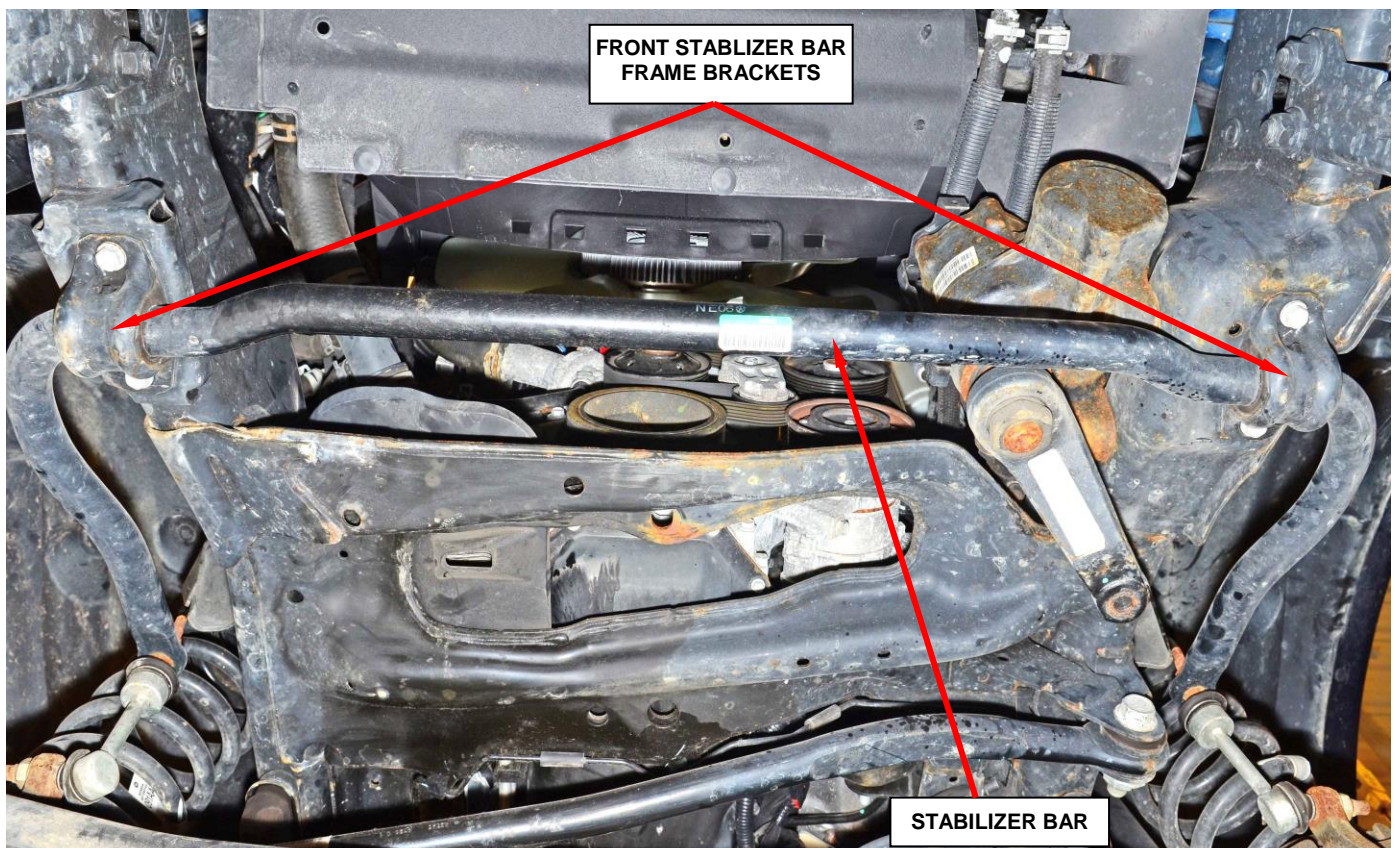

Figure 13 – Front Stabilizer Bar
17. Disconnect the front suspension stabilizer bar at the frame brackets (Figure 13).